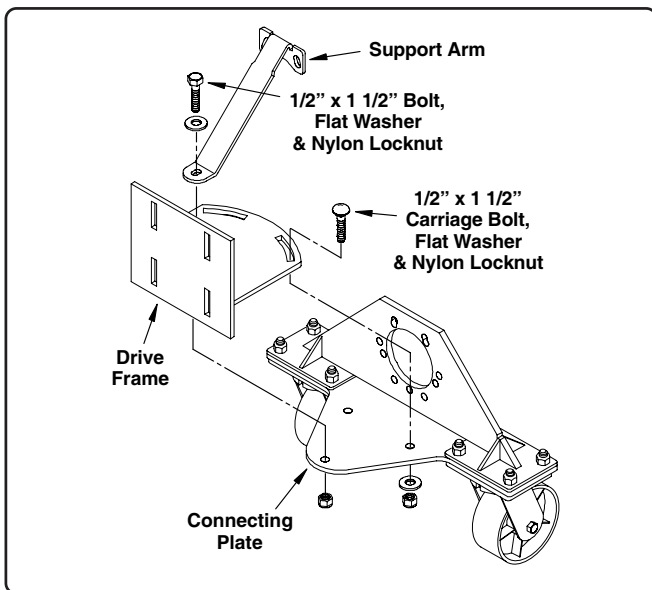

Fig. 3
5. Using two (2) $1/2"$ x $1 1/2"$ carriage bolts, flat washers and nylon locknuts, loosely attach the tractor drive frame to the top of the connecting plate as shown in Fig. 3 (do not tighten at this time).
6. Position the support arm on top of the drive frame and secure the bottom of the support arm using one $1/2"$ x $1 1/2"$ bolt, flat washer and nylon locknut (the bolt will pass through both the drive frame and connecting plate as shown in Fig. 3 (do not tighten completely at this time, you'll want a little movement at the top of the support arm when attaching it to the wheel hub).